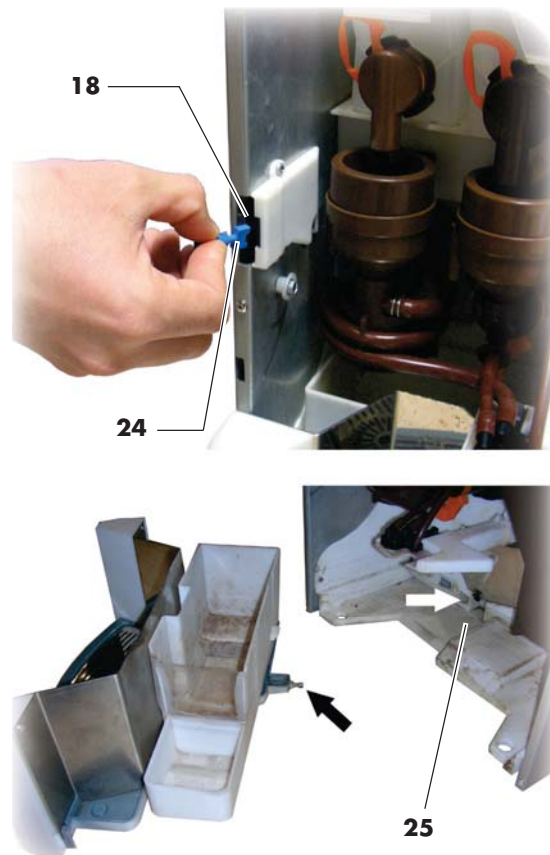

Fig. 8
- A microswitch (Ref. 18, Fig. 8) automatically cuts out the power supply when the front panel is opened. The microswitch can be disabled by inserting the key (Ref. 24, Fig. 8).
- A microswitch (Ref. 25, Fig. 8) blocks vending machine operation when the drip tray and/or coffee grounds drawer are not correctly positioned. A message indicating the incorrectly positioned part appears on the display.
In case of programming or setting up operations only the Maintenance Technician can intervene by inserting the relevant key into the safety switch (rif. 24, fig. 8) and resetting the voltage even if the door is open.